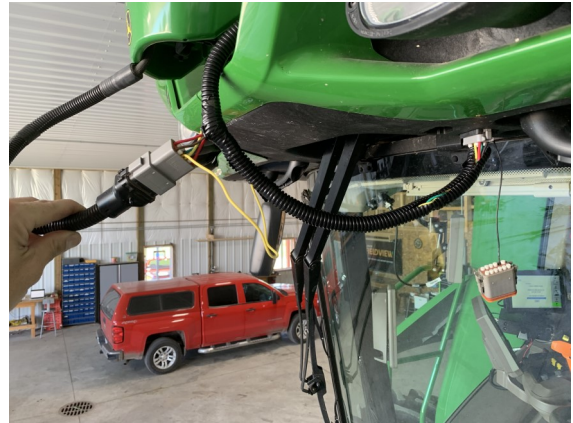

Fig. 2.24 GPS Cable connected to the Green Star GPS Receiver.
1. Connect the John Deere GPS Cable P/N C3H0333 to the Star Fire Receiver as shown in Figure 2.24 and run 12 Pin Deutsch connector end to the cabin access panel and feed the into cabin through the access panel blanking plates as described in chapter 2.6.